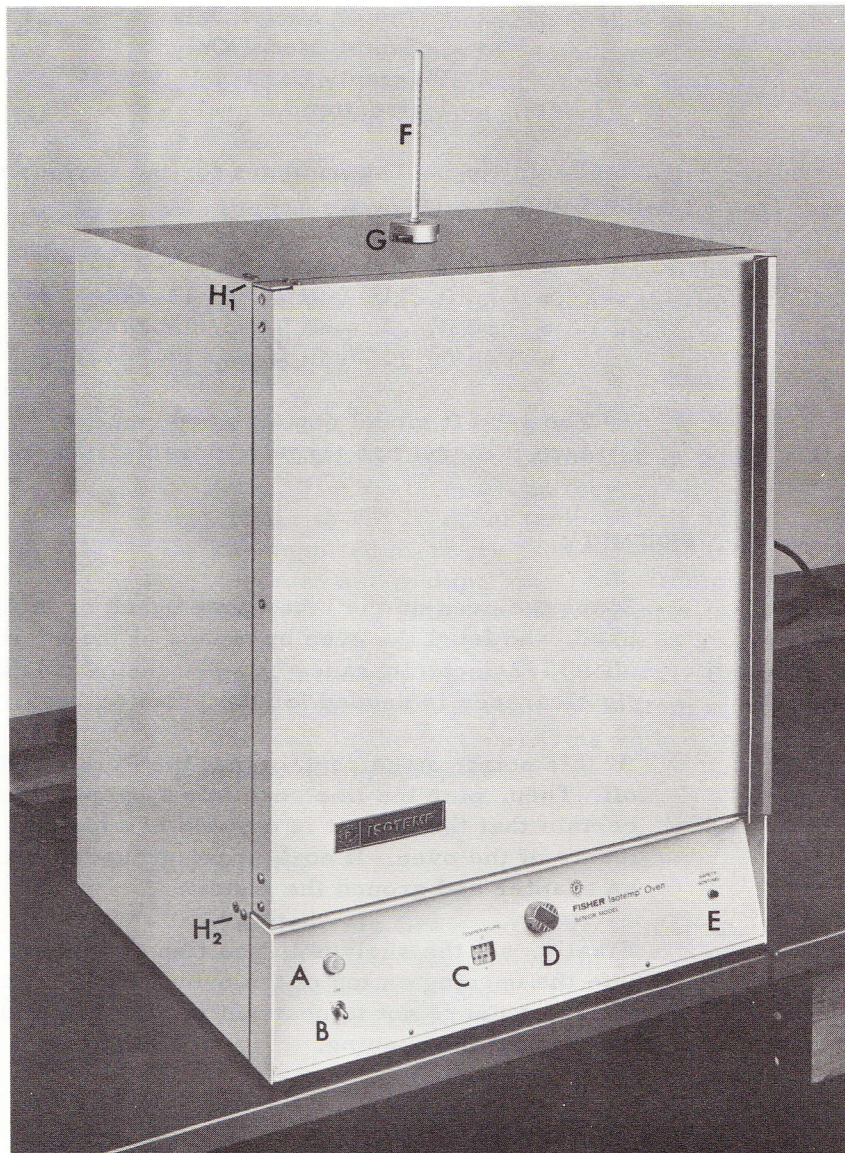

Figure 1 — GRAVITY-CONVECTION ISOTEMP OVEN
To adjust the temperature of the oven, perform the following (see Figure 1):
2. Door Hinges (see Figure 1): To adjust the door hinges on the oven, loosen the screws (H₁ & H₂) that respectively hold the top and bottom hinges in place. Once these screws have been loosened, the door can be moved in the slots as necessary for making adjustments in gasket pressure or fit. After the necessary adjustments have been made, re-tighten the screws.
2. Thermostat: During normal operation, the Safety Sentinel Pilot Lamp (E in Figure 1) will not be on. If this lamp should come on, it indicates failure of the primary thermostat and a shift in temperature control to the second thermostat. When this happens, contact the Technical Service Department of your nearest Fisher Branch for servicing. The oven may be used temporarily on the second thermostat, but the scale is no longer accurate and the safety feature is no longer operative.